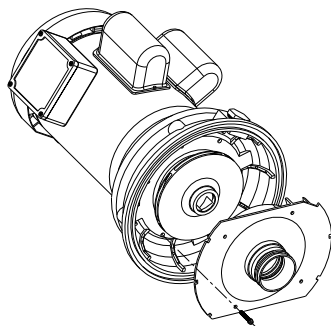

Figure 10
Pump and piping need not be disconnected to repair or replace motor or seal (See figure 10). If motor is replaced, replace the shaft seal (Ref.No.13 on Page 10 and Ref. No.16 on page 11). Keep one on hand for future use. Be sure to prime pump before starting.
- Remove four screws fastening diffuser to seal plate; remove diffuser (See Figure 10). Exposed impeller can now be cleaned.